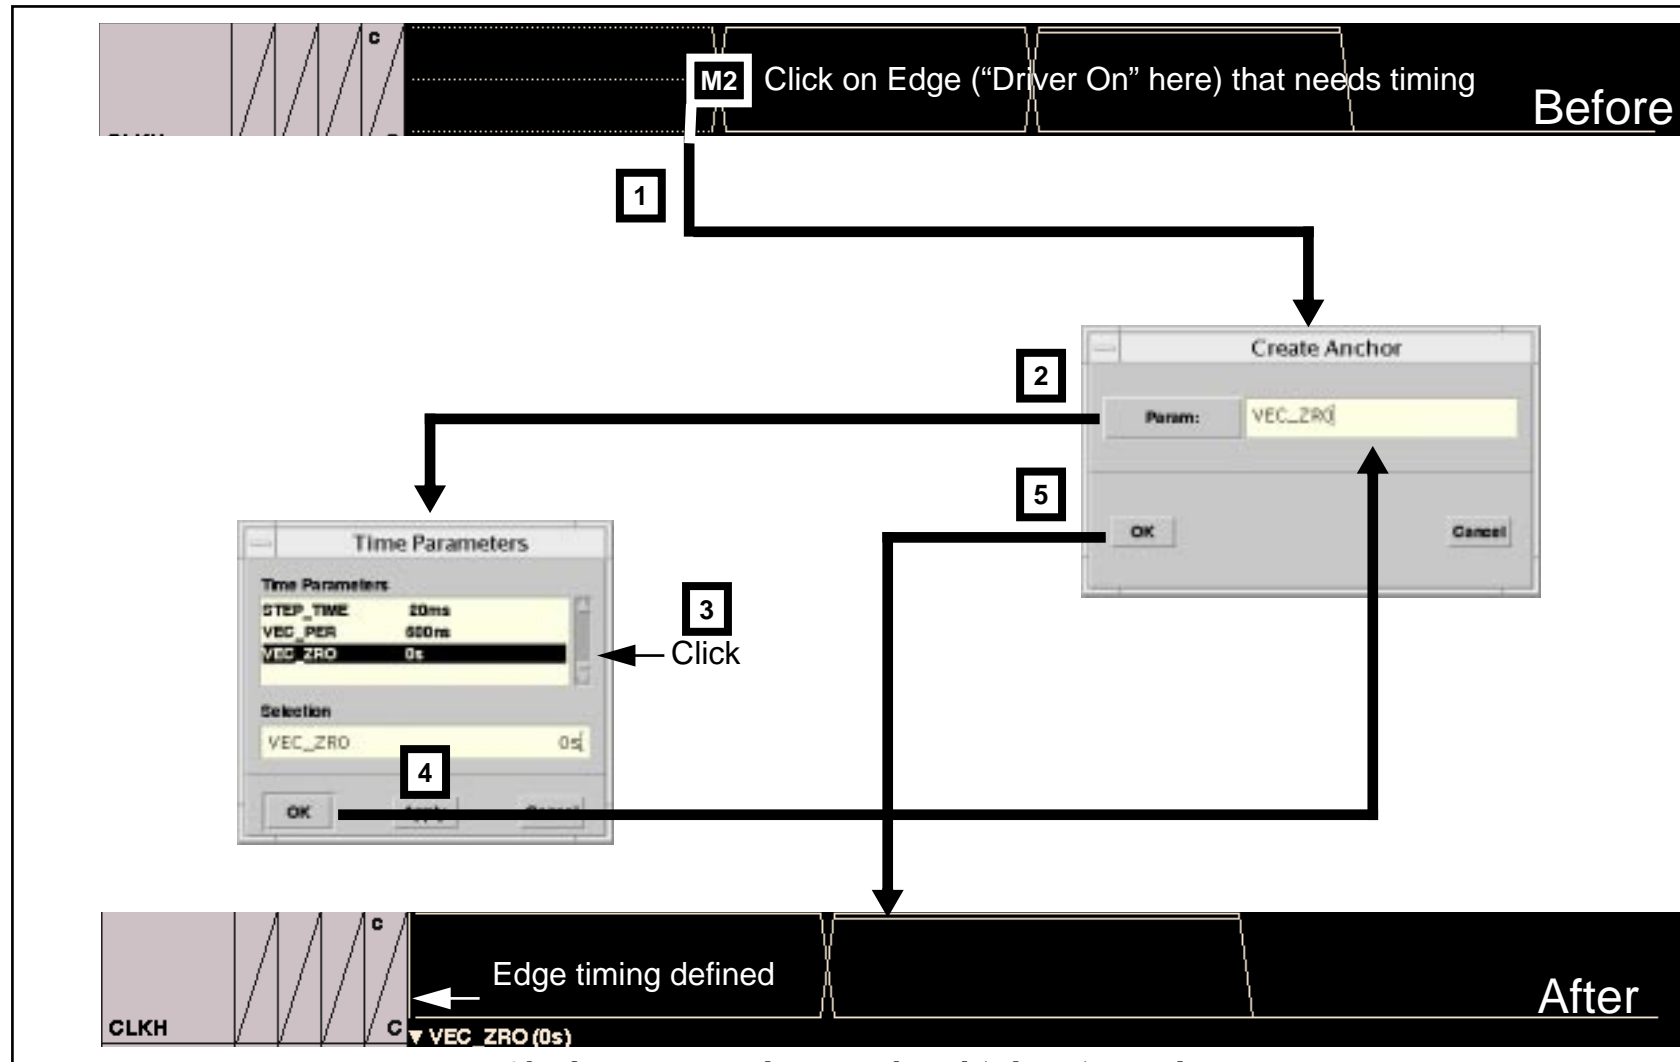

Figure 2.39: Attaching Absolute Timing by Using a Spec Parameter
- f. Click M1 on the *OK* button of the Create Anchor window to complete this timing definition on the timing edge as shown in Figure 2.39.